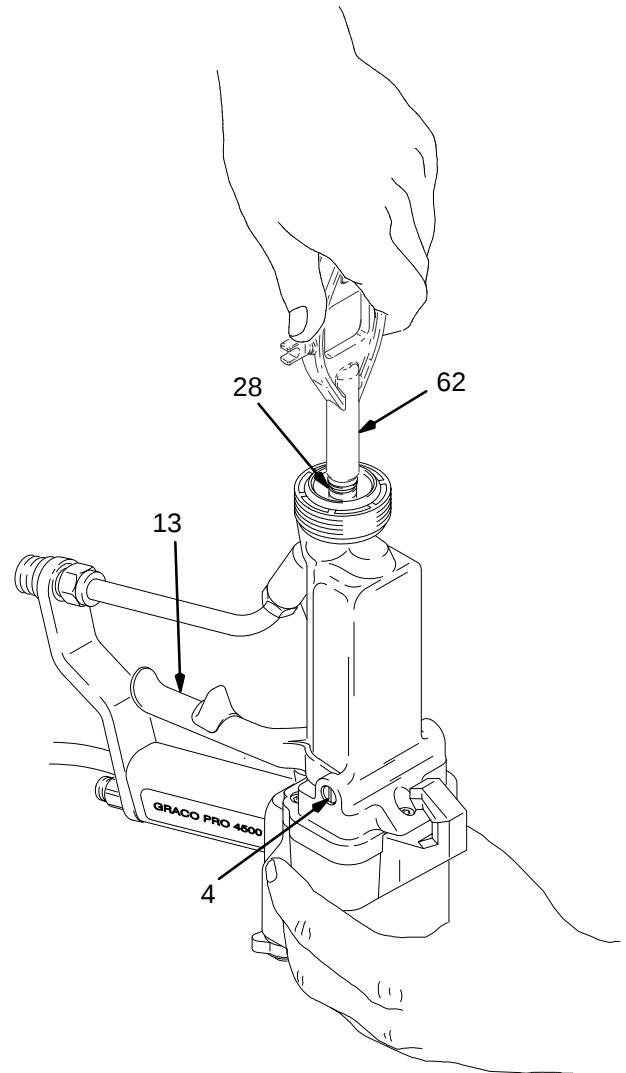

Fig. 16
3. Remove the trigger screws (4) and the trigger (13) far enough to remove the trigger (13).
4. Remove the needle assembly (28), using the multi-tool (62). See Fig. 16.